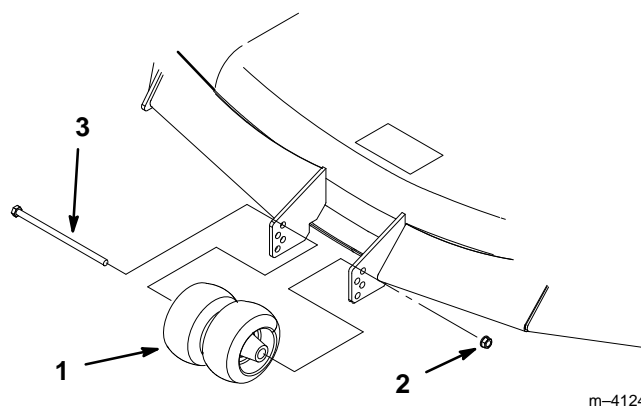

Figure 14
1. After adjusting height-of-cut, remove bolt and nut (Fig. 14).
2. Select hole so gage wheel is positioned to the nearest corresponding height-of-cut desired (Fig. 14).
3. Reinstall the bolt, center rollers and nut (Fig. 14).